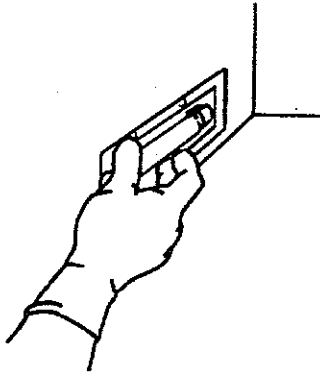

Figure 90
- c. Wear protective gloves to remove defective bulb and replace with functioning bulb. See Figure 90.